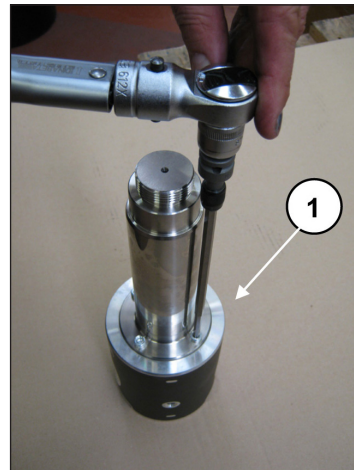

Fig. 37
To separate the rod from the piston guide, unscrew the hexagonal head M6 screws with a special wrench (pos. ①, Fig. 37).